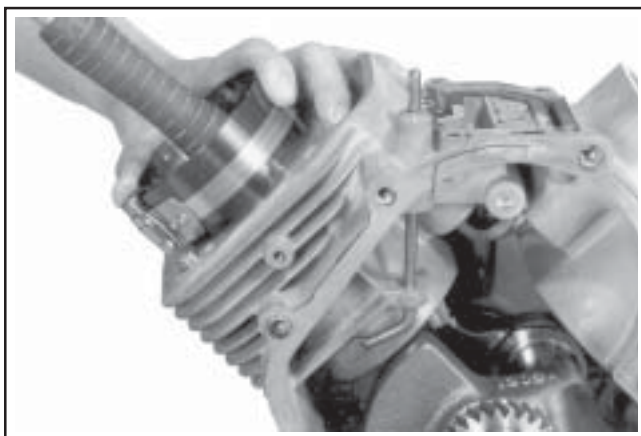

Figure 11-9. Installing Piston Assembly Using Ring Compressor Tool.
4. Make sure the “Fly” stamping on the piston is facing towards the flywheel side of the engine. Use a hammer with a rubber grip and gently tap the piston into the cylinder as shown in Figure 11-9. Be careful that the oil ring rails do not spring free between the bottom of the ring compressor and the top of the cylinder.